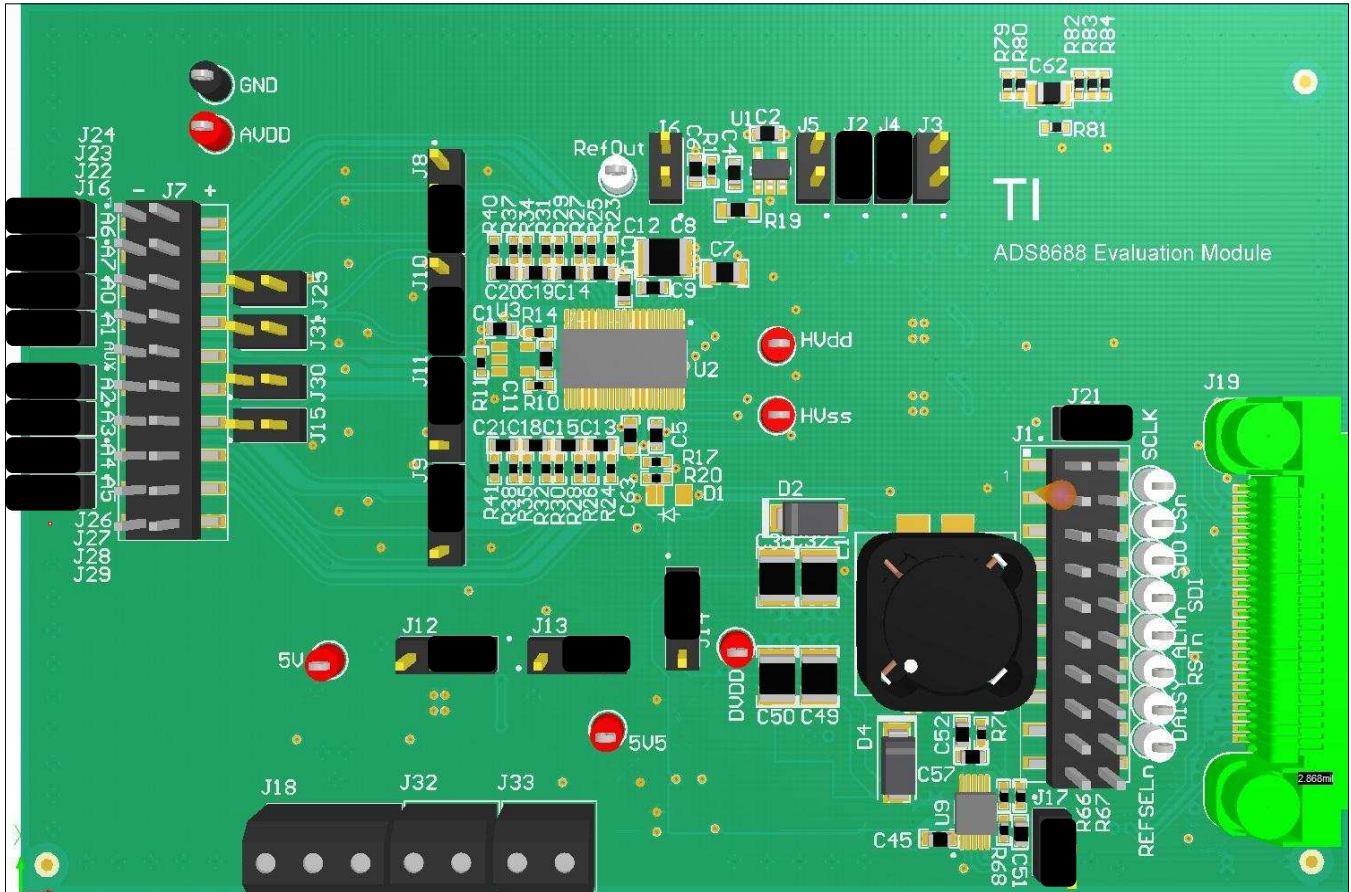

Figure 4. ADS8688EVM Default Jumper Settings
Figure 4 details the default jumper settings. Table 12 provides the configuration for these jumpers.
3. Verify the ADS8688EVM jumpers are configured as illustrated in Figure 4.